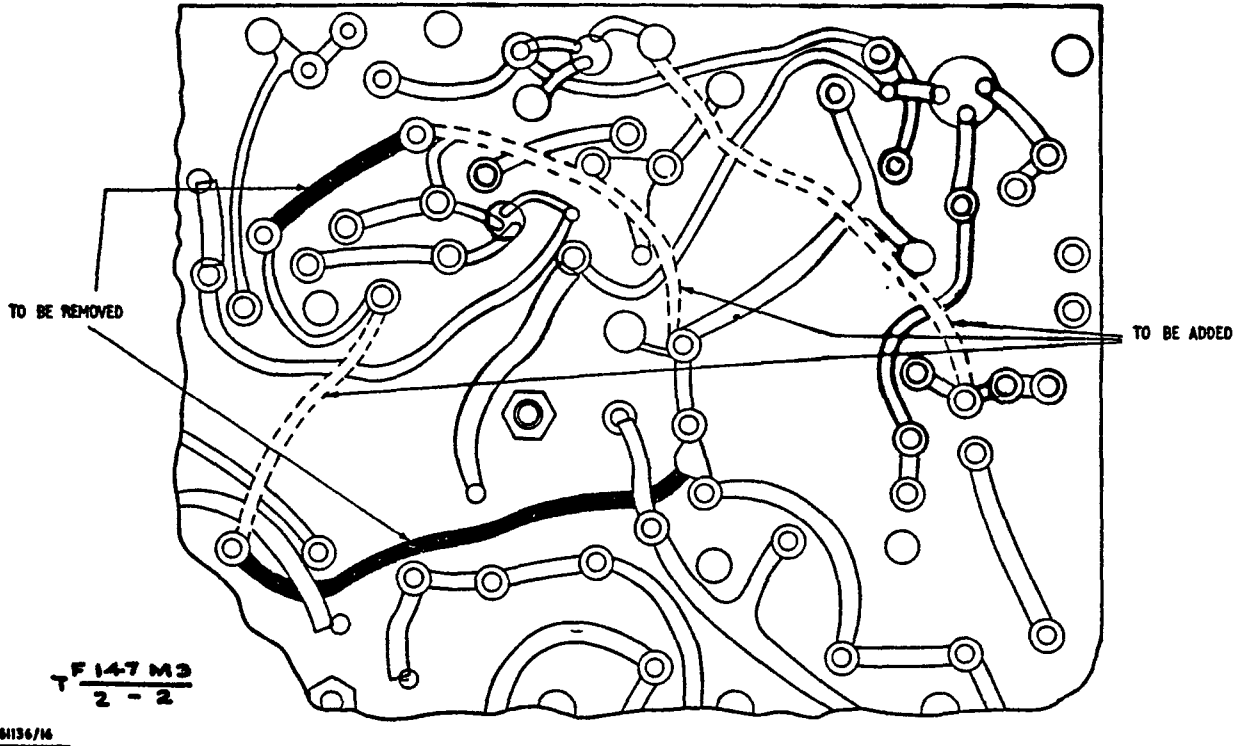

Fig 2 - Wiring changes, underside of panel
- e. Locate and solder in place the wiring as shown in Fig 2.